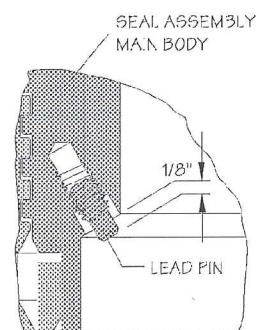

Figure 7. Lead pin detail
7. Inspect the two lead impression pins located in the ID of the Seal Assembly. Refer to **Figure 7**.